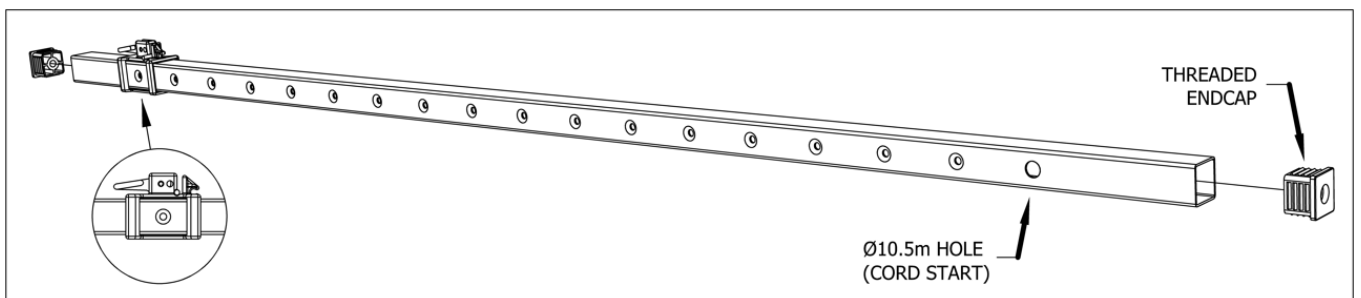

Fig 2. Fit threaded endcaps and Line Tension Lock to rear spacer bar.
6. Pre-assemble the 1170mm rear spacer bar fitting the threaded endcaps to either end and Line Tension Lock (L.T.L.). (Fig 2)